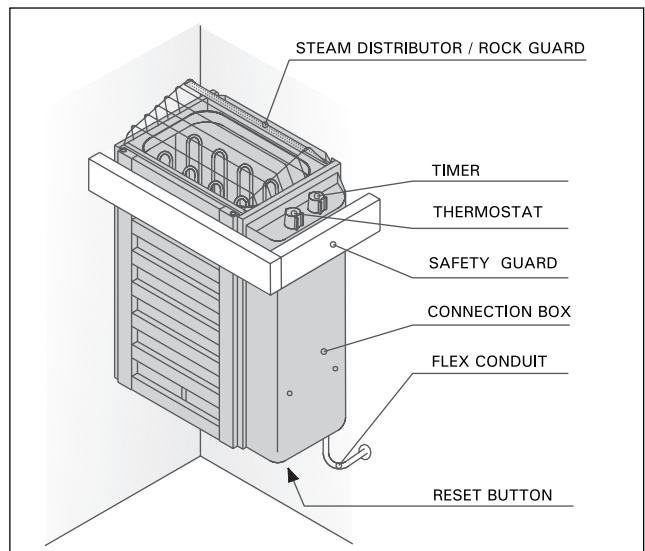

Figure 9. Connections and parts of the heater
3. The steam distributor / rock guard must always be fastened on the wall side of the heater. To turn the distributor / guard, loosen the fastening screw and then turn it. See figure 9.